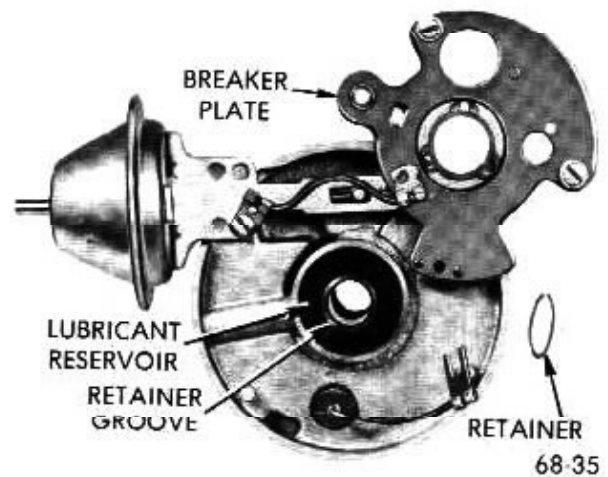

Figure 68-35 Installing Breaker Plate and Retainer
2. Install felt washer over upper bushing and apply a few drops of light oil. Then place breaker plate over upper bushing and vacuum advance link. Install retainer on upper bushing. See Figure 68-35.